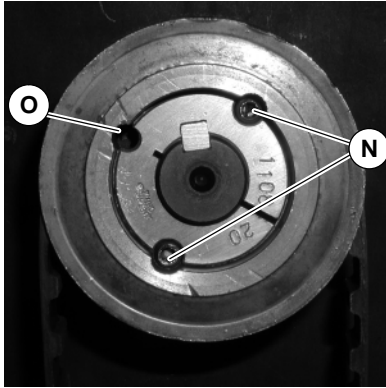

Figure 19
- b. Loosen taper set screws (N of Figure 19) on the driven pulley. Remove one set screw and insert in open hole (O). Tighten until pulley slides off drive shaft.